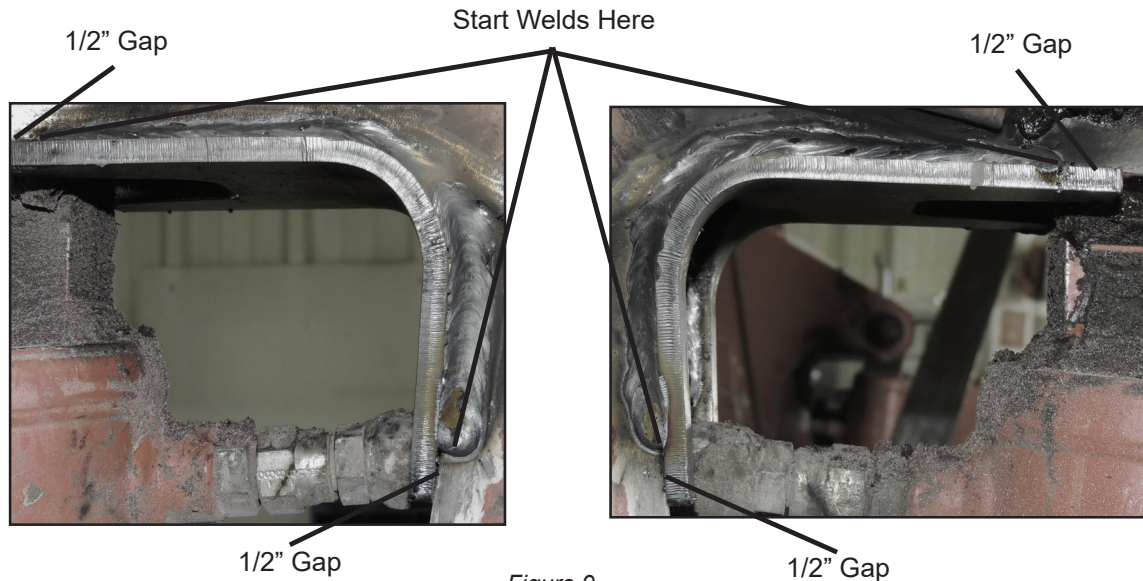

Figure 9
11. Weld the "H" bracket in place. Weld to within 1/2" of the ends of the "H" bracket (Figure 9). **Do NOT weld all the way to the end of the "H" bracket.** Apply approximately 1/4" welds.